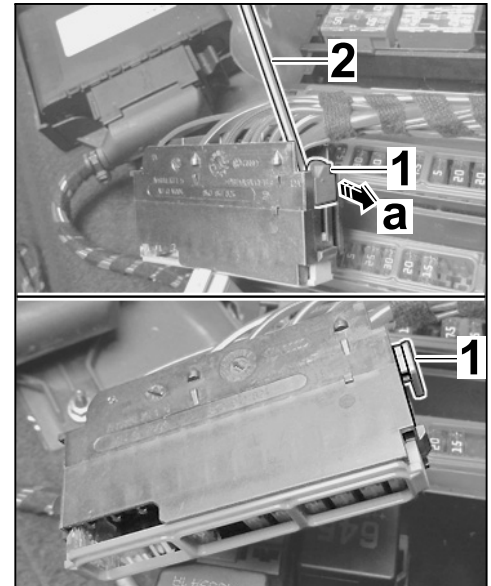

Figure 10
2.4.4 Use a screwdriver to open the secondary lock on fuse strips B and C (⇒ Figure 10-a).